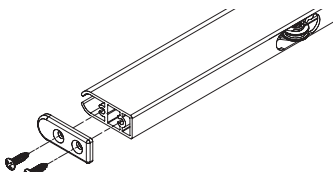

Figure 7
- ⑪ Remove one of the endcaps from the fabric hem-bar (see Fig. 7).
- ⑫ Remove fabric retainer from hem-bar and insert it into the fabric hem.
- ⑬ Attach the hem-bar assembly to the fabric panel by sliding it over the fabric and retainer, then re-attach hem-bar endcap.